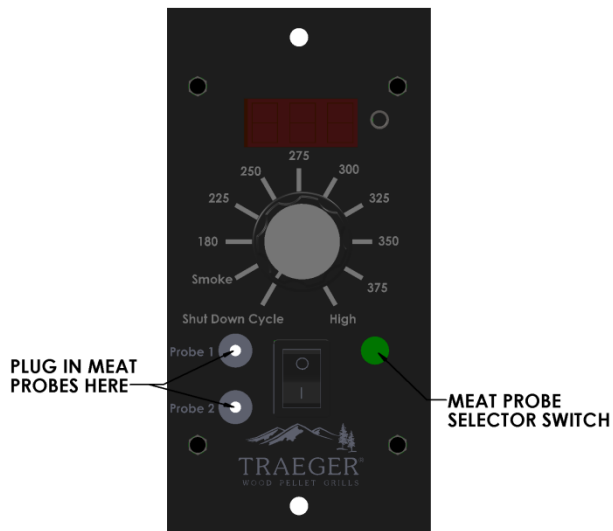

Figure 4-1
- 1) Insert either one or two meat probes into the plug-in receptacles located on the lower left corner of the controller as shown in Figure 4-1.
- 4) To read the temperature of the meat probe press the meat probe selector switch locate in the lower right corner of the control as shown in Figure 4-1. The control will revert back to the barbeque temperature after 5 seconds.